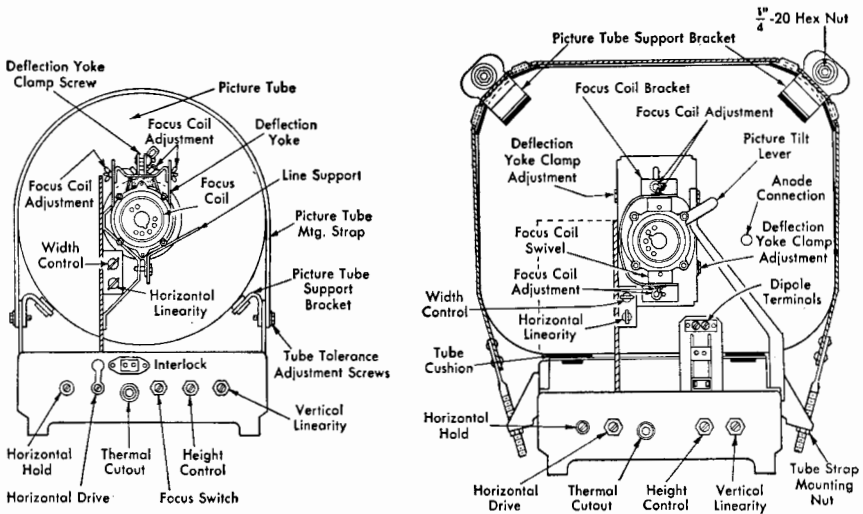

Fig. 25. Two types of picture-tube mounting straps used to anchor tube to chassis
5. Loosen the special hold-down strap that goes around the widest part of the picture tube, after first studying its anchor screws carefully so you can get them back on correctly. Note also the exact position of the front of the picture tube with respect to the front of the chassis. The new tube must be in this same position, so it fits against the mask for the screen. Two examples of picture-tube mountings are shown in Fig. 25. Be sure to note how tight the straps are originally, before you loosen them.